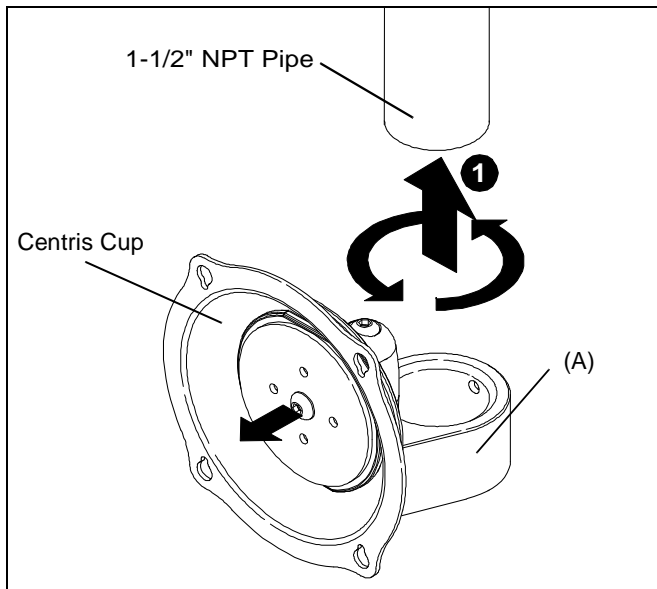

Figure 1
1. Thread mount (A) onto 1-1/2" NPT pipe until hand tight.
2. Adjust mount (A) position until Centris cup is facing the desired position of the display. (See Figure 1)